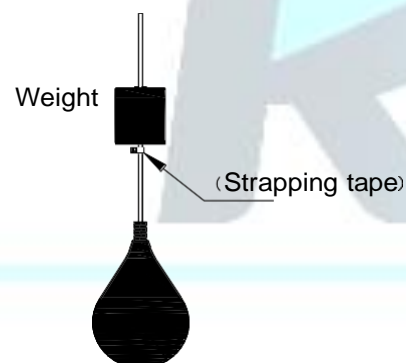

Figure 2
2. Shown as Fig. 2, feed the cable from the movement weight's bottom (the end with larger hole), push the movement weight to the prepared level. It will keep the position under normal application. But if anything else collide the weight, it may change the installed position. So customer may stick something like strapping tape right on this position to prevent the weight from falling down.